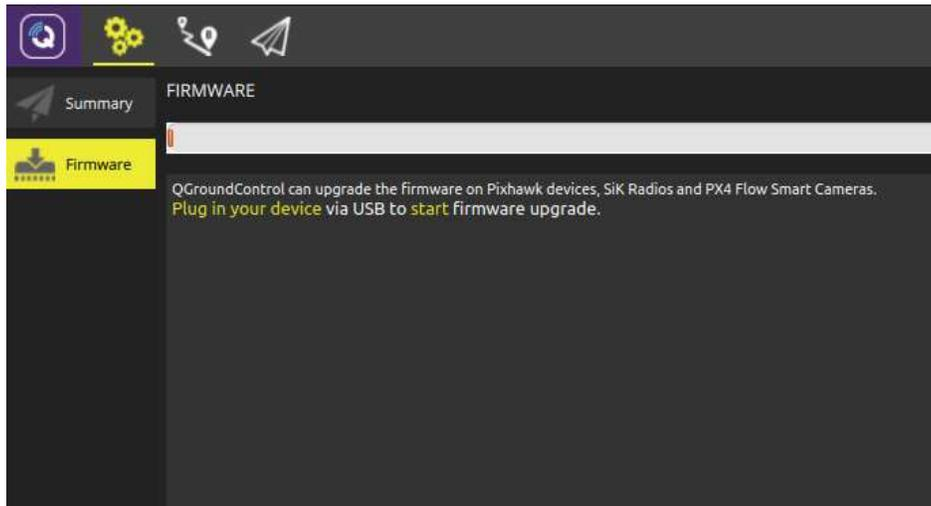

Figure 2: QGroundControl Firmware Flasher Screen
4. The main window instructs you to **'Plug in your device via Universal Serial Bus (USB) to start firmware upgrade.'** Plug a USB type-A to micro-B cable into the port labeled **'aerocore'** or **'stm console'** on the AeroCore 2 board and an available USB port on the host PC. (See Fig. 2)